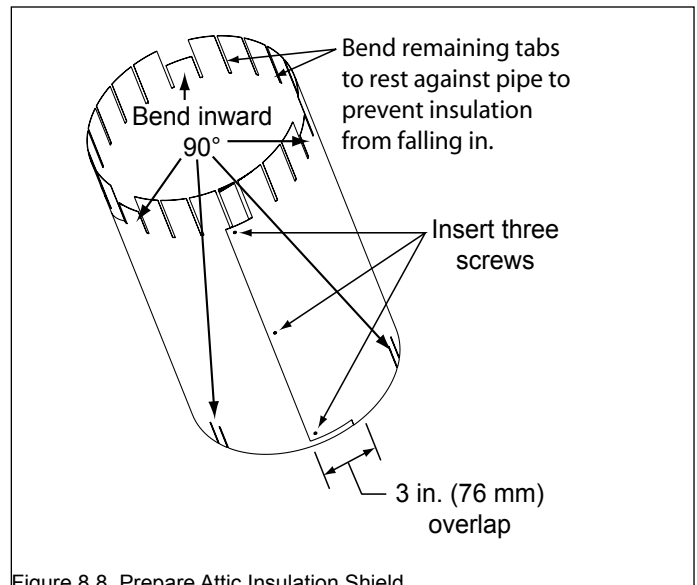

Figure 8.8 Prepare Attic Insulation Shield
- Refer to Figures 8.8 - 8.10.
- Bend three tabs on the bottom of the tube inward to 90° to maintain chimney air space (refer to Figure 8.8).